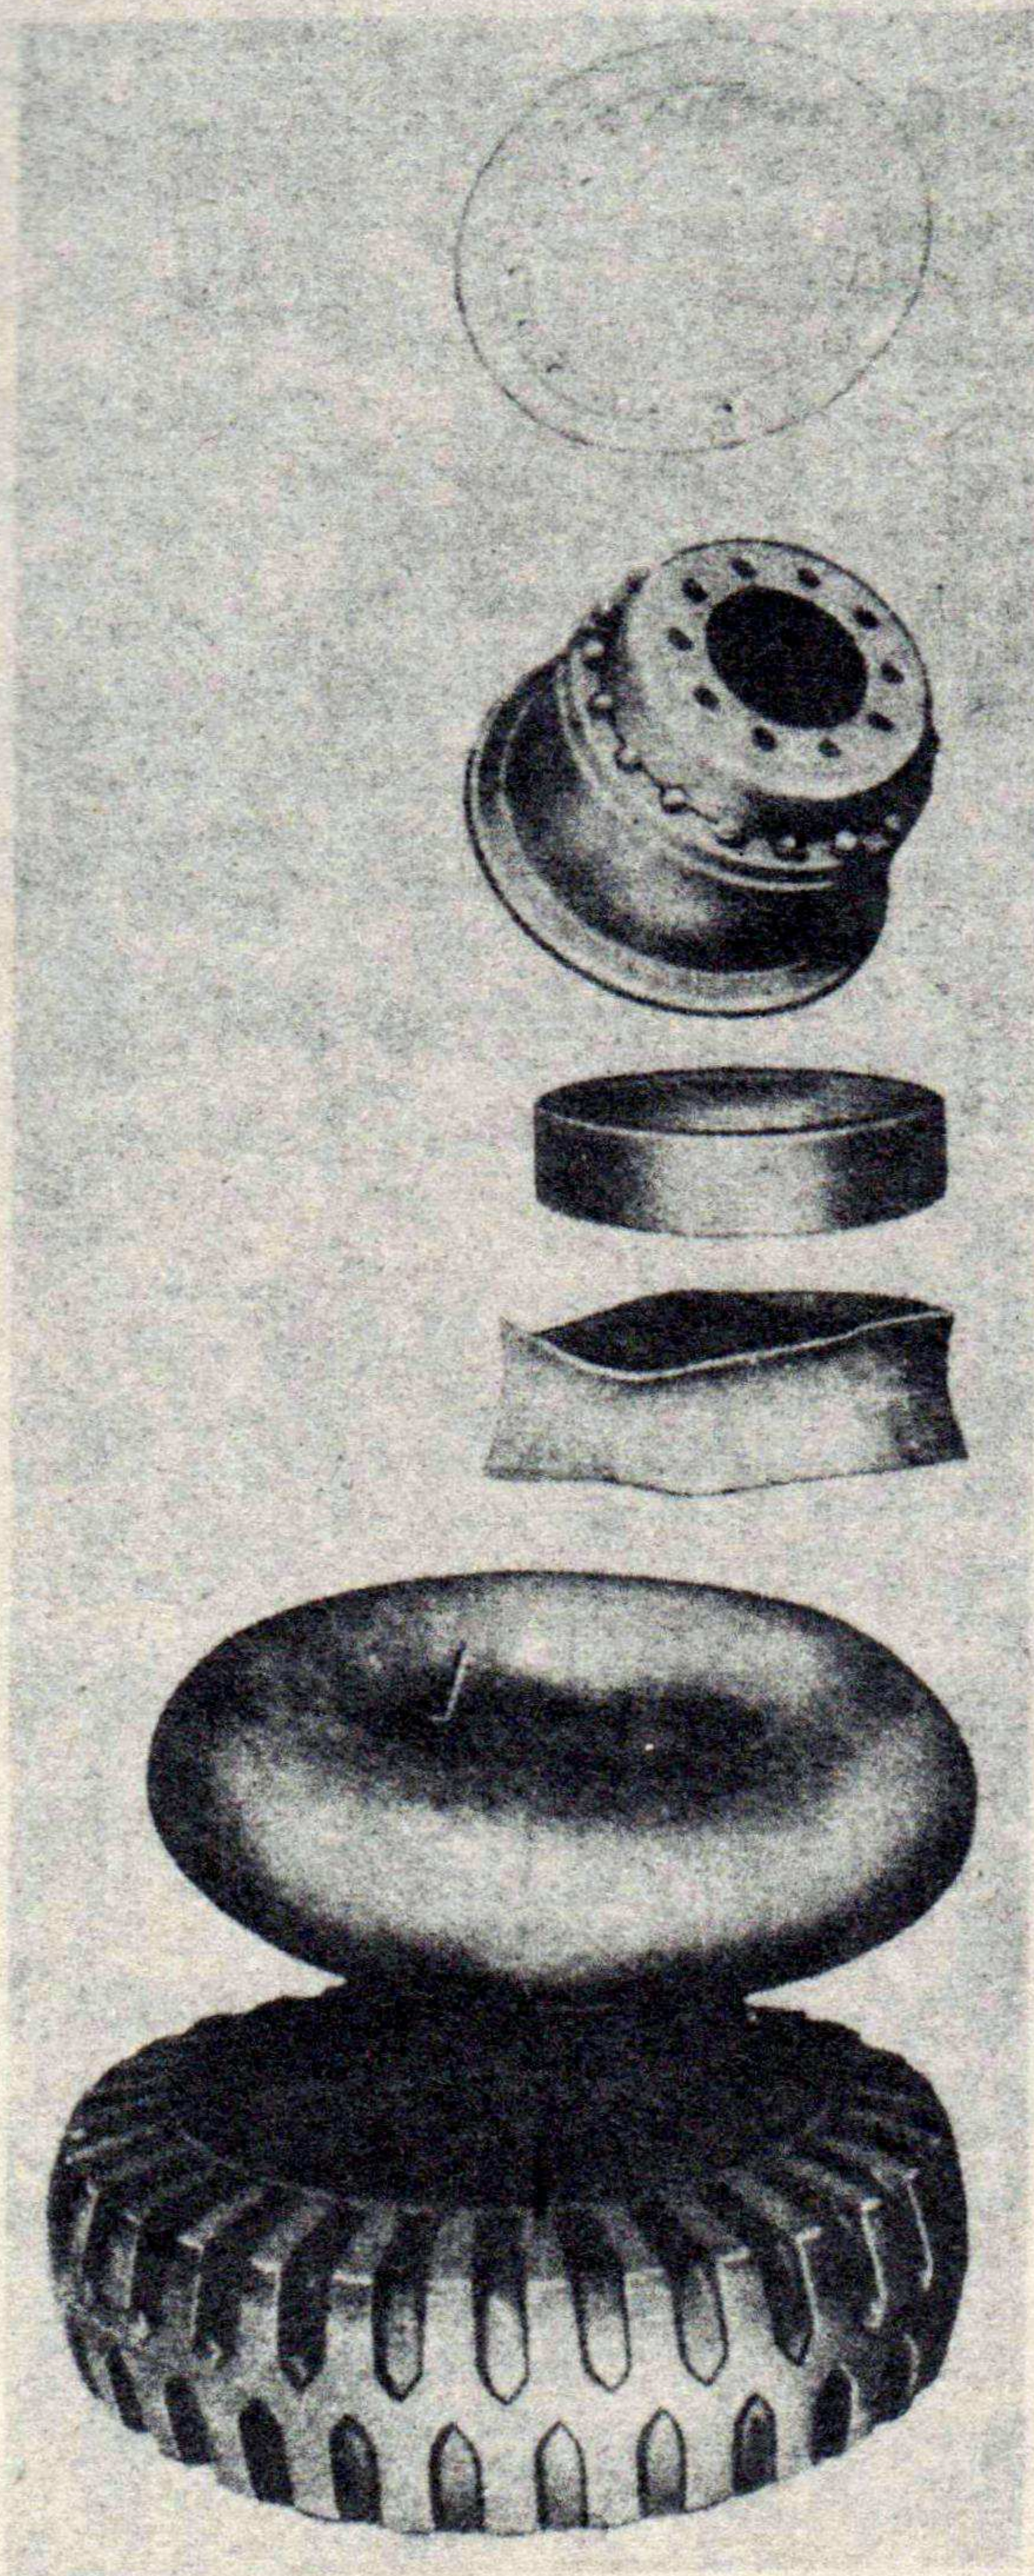

Figure 8 Wheel and Tire
4. SPARE WHEEL AND TIRE: (Fig. 8)